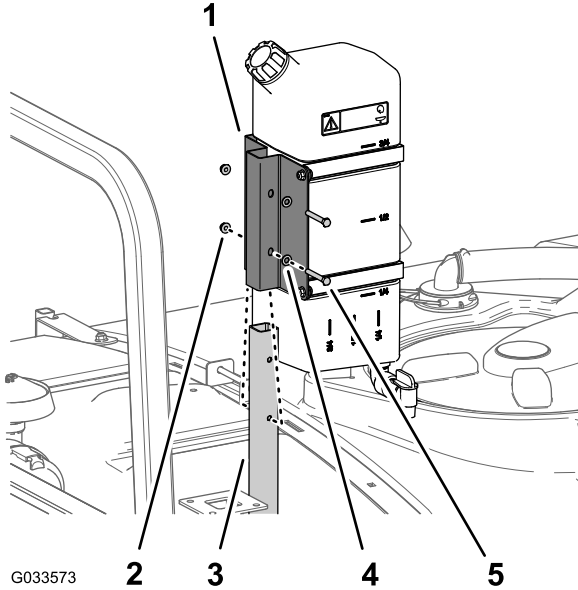

Figure 45
1. Assemble the freshwater tank and mount onto the support tube with the 2 bolts (5/16 x 2-1/4 inches) and 2 flange locknuts (5/16 inch) as shown in Figure 45.